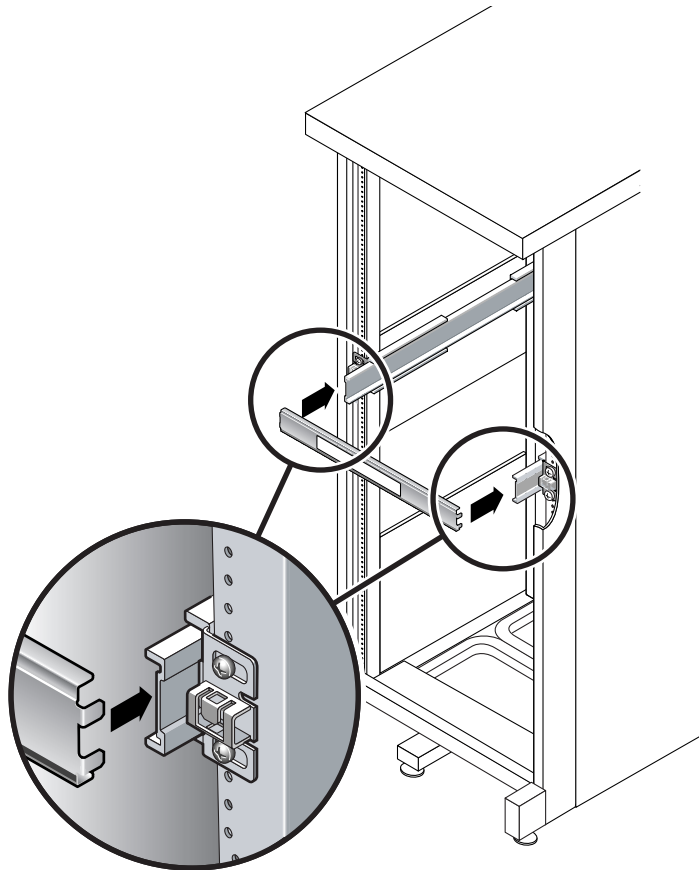

FIGURE 2-19 Using the Slide Rail Spacing Tool to Adjust the Distance Between the Slide Rails
- a. At the front of the rack, plug the left side of the tool into slots at the end of the left rail (FIGURE 2-19).